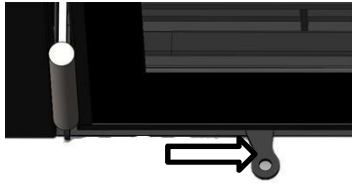

Fig. 3. Fully Open Position
- To **fully open** the primary air, **slide the control knob to the right**, as far as it will go (see figure 3).